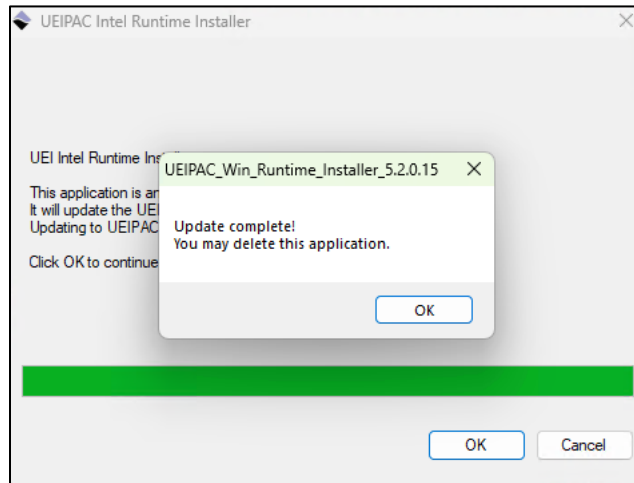

Figure 6. Confirmation Screen
3. When the confirmation screen is displayed (Figure 6), press “OK”.